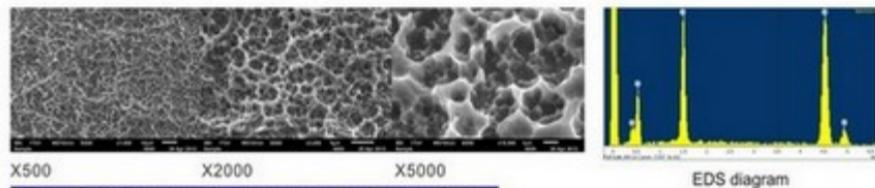

Figure 1. Surface Treatment of Anker Dental Implants with individual magnifications
- 1 Following the unique sandblasting, large grit , acid-etched is tended to increase the roughness of the surface and amplify BIC (Bone-Implant Contact). Surface roughness evolves a better consequence after treatment accordingly to SEM [Figure 1] is even better than those leading peers. The surface roughness increased 39% after S.L.A treatment, further eases the attachment of Osteocyte, and boost Osseointegration.